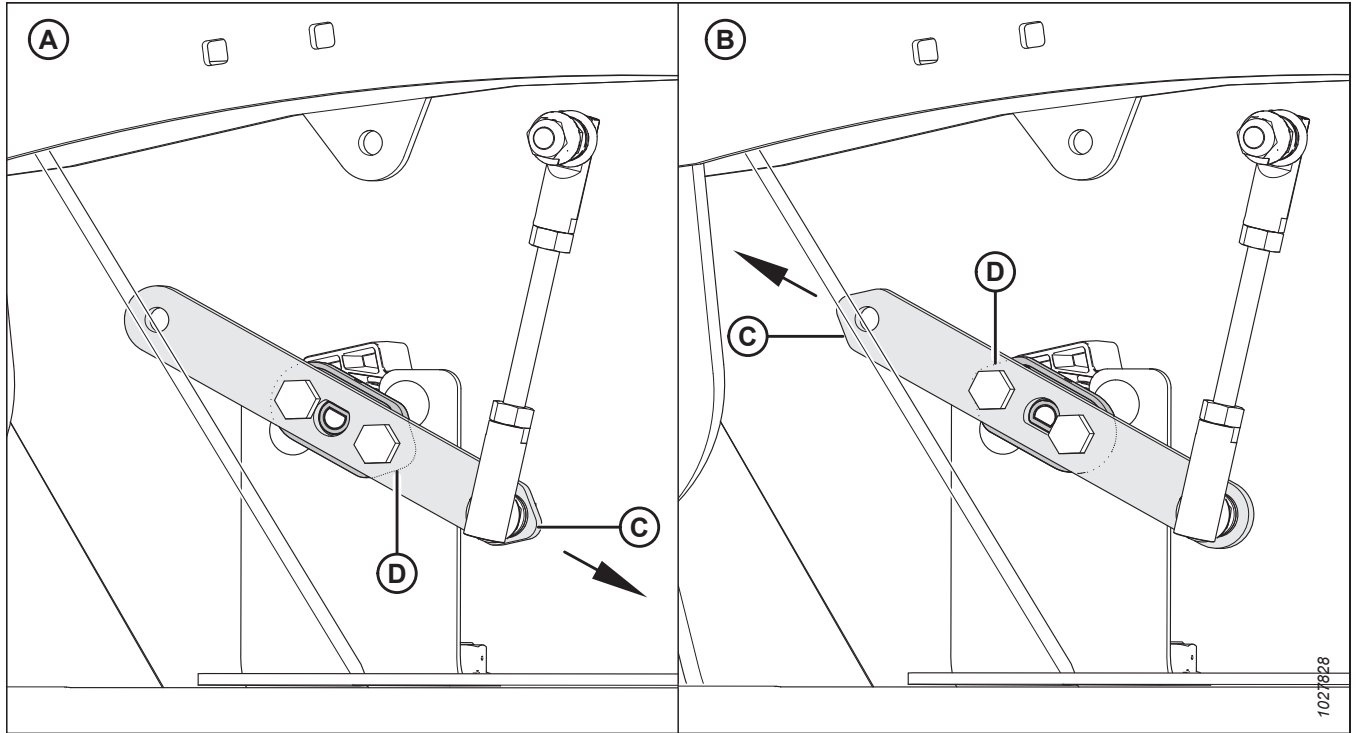

Figure 3.18: Sensor Arm/Pointer Configurations
- For configuration (A), pointer (D) points to the **FRONT** of the header.
- For configuration (B), pointer (D) points to the **REAR** of the header.
2. Check that sensor arm (C) and pointer (D) are configured properly for your combine. For instructions, refer to Figure 3.18, page 31.